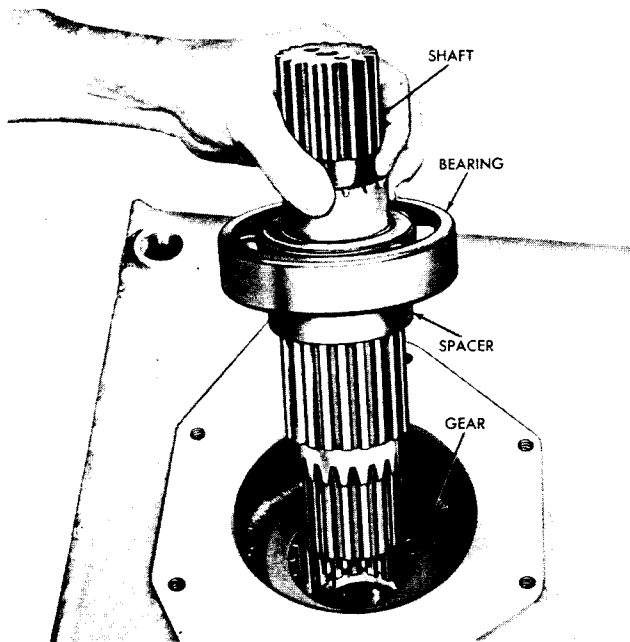

Fig. VII-2. Installing rear output shaft assembly 52433
(6) Install the rear output shaft assembly (fig. VII-2). Tap the shaft until the spacer seats on the gear.